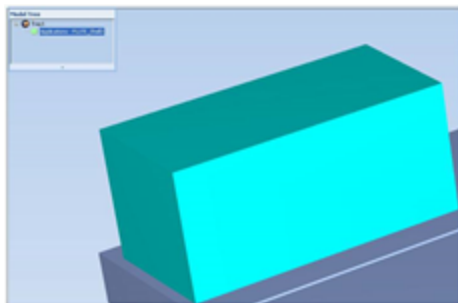

Figure 5-51 Model displayed with bounding box
- ☐ With a *Bounding Box* (see Figure 5-51 on page 5-43)